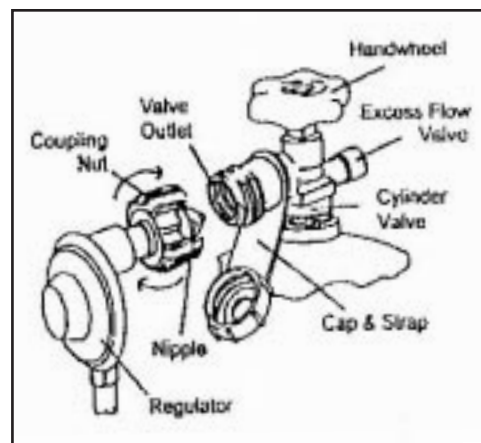

Figure 8.
7. Connect regulator nipple into the cylinder valve. Make sure nipple is centered in cylinder valve outlet. Tighten coupling nut by hand; do not cross thread connection. (Figure 8.)